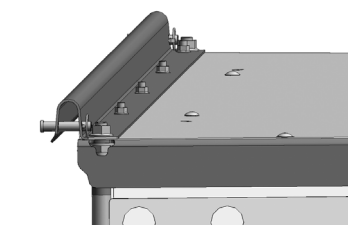

Figure 6
6) **Forming Shield Front Mounting Point** See Figure 6